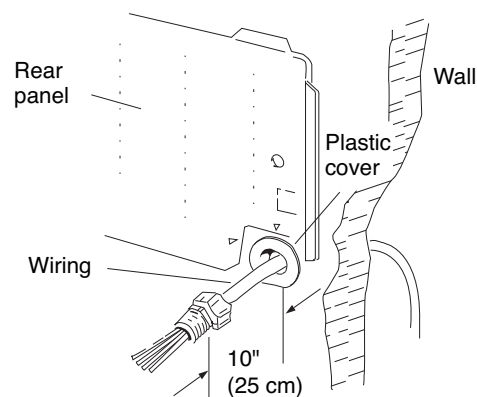
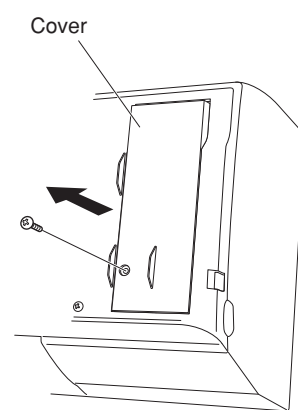

Fig. 24
Fig. 25
- (1) Insert the inter-unit wiring (according to local codes) into the through-the-wall PVC pipe. Run the wiring toward the indoor side allowing approx. 10" (25 cm) to extend from the wall face. (Fig. 24)
- (2) Grasp both ends of the front panel, push the arms towards the outside, and remove the front panel by opening it towards the front and pulling it towards you. If the front panel is difficult to remove, grasp both ends of it and lift it up slightly. Move it to the left and disengage the left arm, then move it to the right and disengage the right arm.
- (3) Remove the screw on the right side cover plate and open the cover. (Fig. 25)